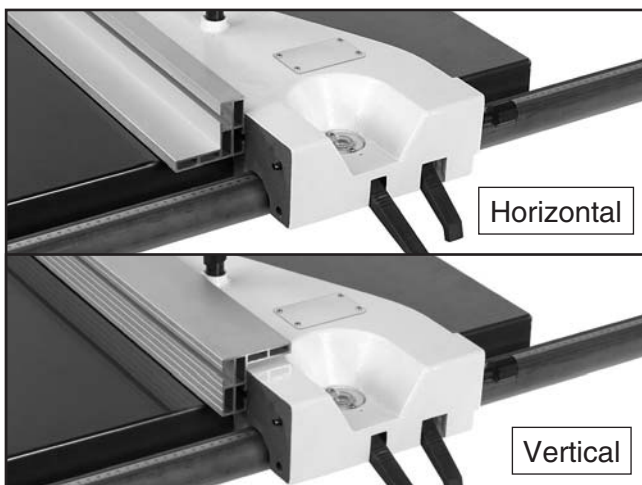

Figure 65. Rip fence positions.
3. Place the rip fence in the vertical position for larger workpieces, or in the horizontal position for angled cuts when the blade would otherwise contact the fence and for thin workpieces (see **Figure 65**).